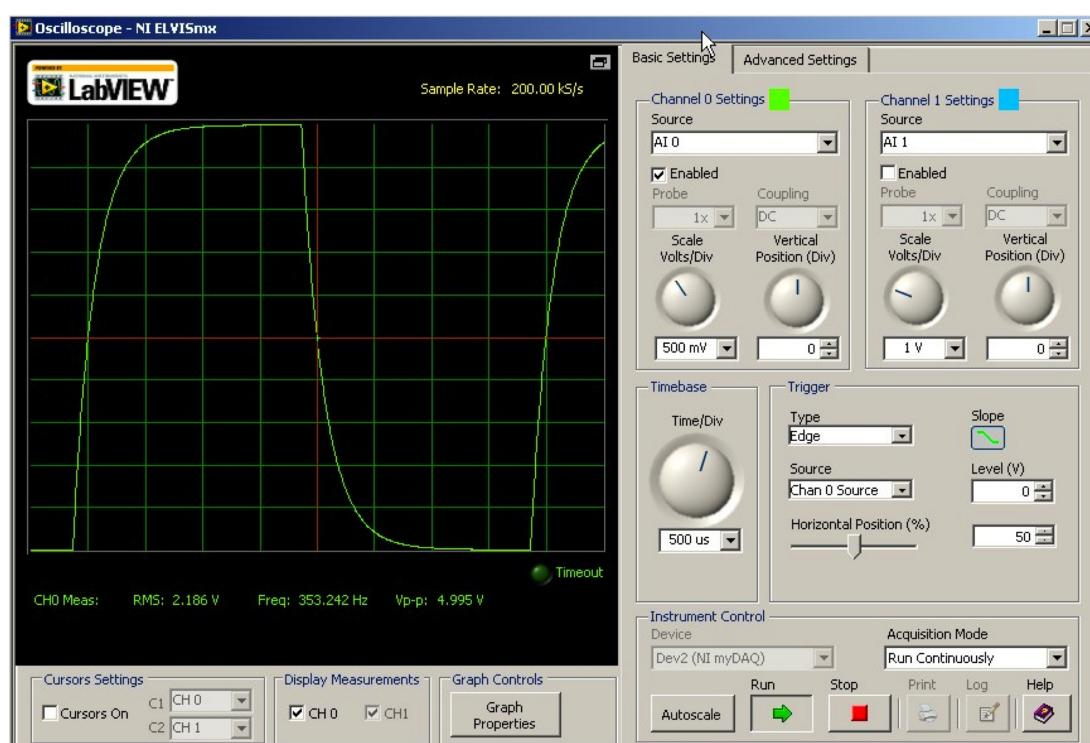

Figure 5: Scope Initial Setup
The Oscilloscope will do the same job as the simulated scope did in the last lab. It needs a lot of adjusting, as shown in Figure 5.
5. Click run. The scope should look like Figure 5.